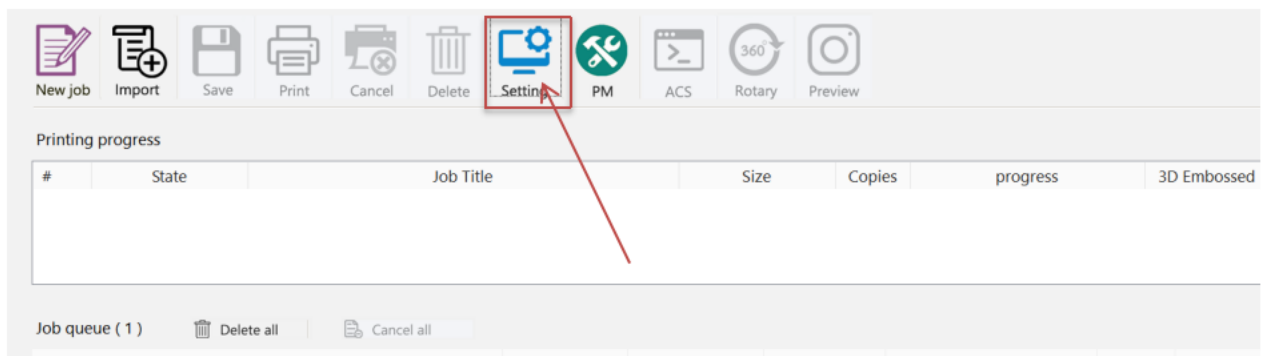
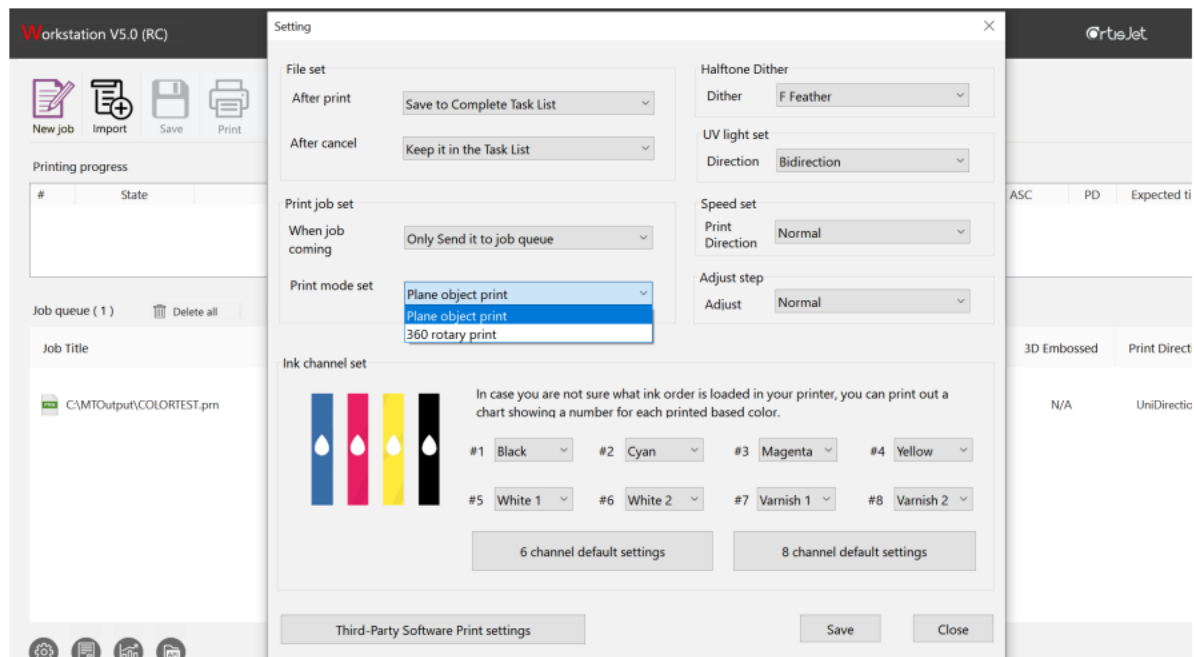

Fig.19- The setting button position
Fig.20- How to change the print mode set
- b. **Print Mode Selection** – print flat materials or ROT-360. You can click the “**Setting**” button (Fig. 19) to change the print mode selection (Fig. 20).